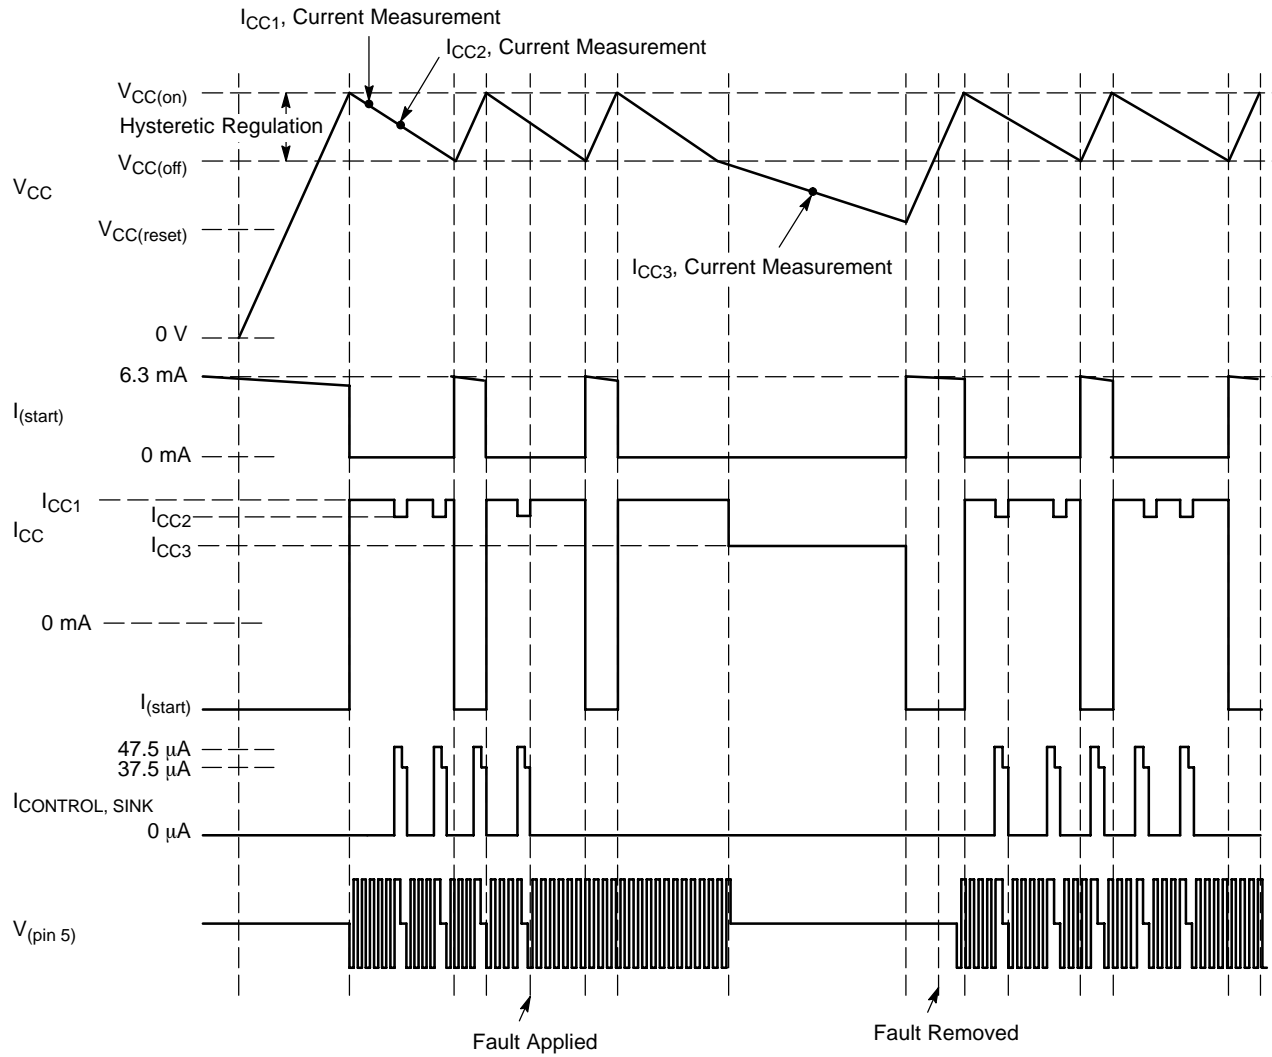

Figure 4. Non-Latching Fault Condition Timing Diagram
- See Non-Latching Fault Condition Timing Diagram in Figure 4.